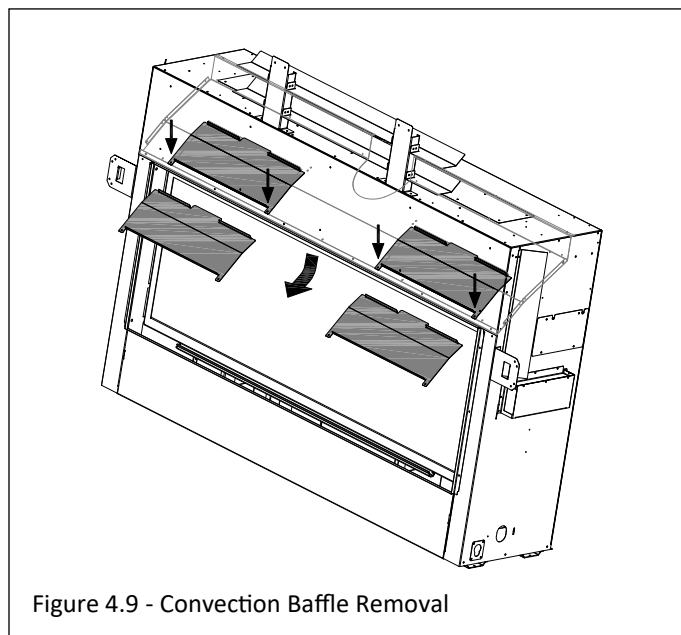

Figure 4.9 - Convection Baffle Removal
3. Locate the (2) convection baffles as shown in Figure 4.9. There are (2) screws that secure each convection baffle. Remove the screws and convection baffles from the fireplace. Discard the screws and convection baffles.